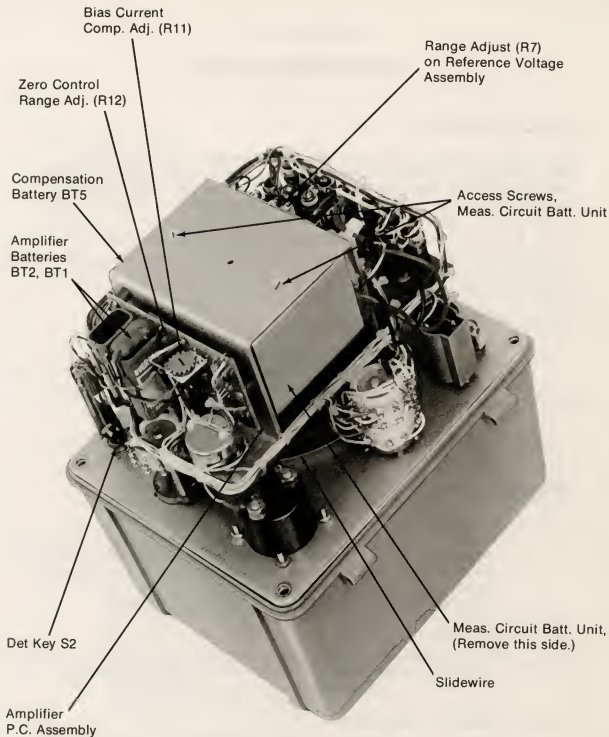

FIGURE 12: Internal View of Cat. No. 72-310-05. Cat. No. 72-312-01 is the Same Except Resistors R11 and R12 are Omitted.
After long periods of disuse it may be necessary to clean the slide-wire or push keys. This and other maintenance and calibration procedures are described in the following paragraphs. Refer to Figure 12 for location of internal components.
- (d) If the pointer range found in step (c) is offset, set the ZERO ADJ control to its mechanical center position and adjust R12 (See Fig. 12) to bring the meter pointer to within 1 division of "0"; then adjust ZERO control for exact "0". If the pointer can not be brought to "0", see step (g).